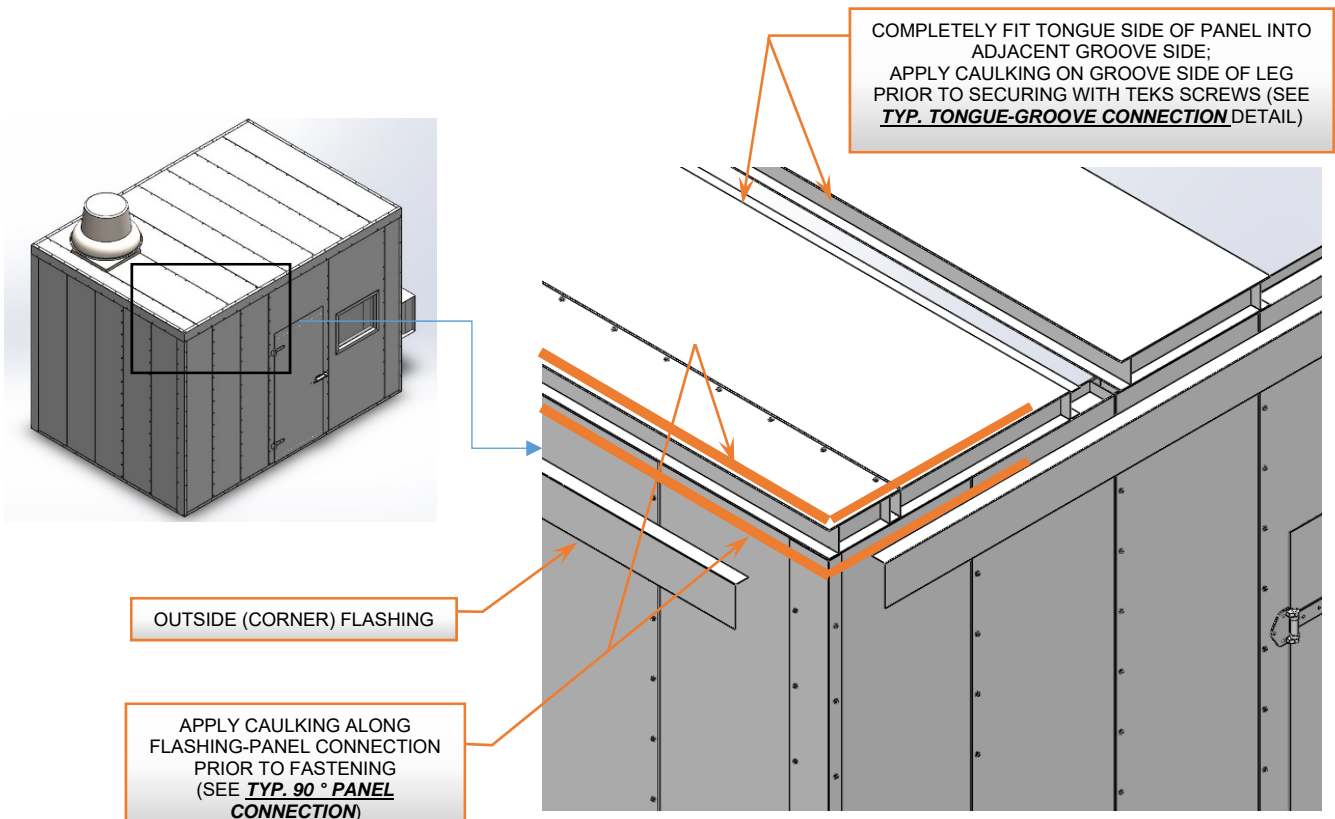

FIGURE 5
- Lay roof panels as per piece-marked installation drawings. Follow typical Tongue-Groove Installation Sequence, as marked on the layout. CAULKING MUST BE APPLIED on all Tongue-Groove panel connections, prior to securing with TEKS screws (see **TYP. TONGUE-GROOVE PANEL CONNECTION** detail and **FIGURE 5**).
- After each panel is connected to adjacent panel, secure outside flashing as shown on **FIGURE 5 & 6**. CAULKING MUST BE APPLIED on all Outside Flashings (see **TYP 90° PANEL CONNECTION** for details). All Flashings are supplied in standard 10 FT lengths and are to be field cut as required.